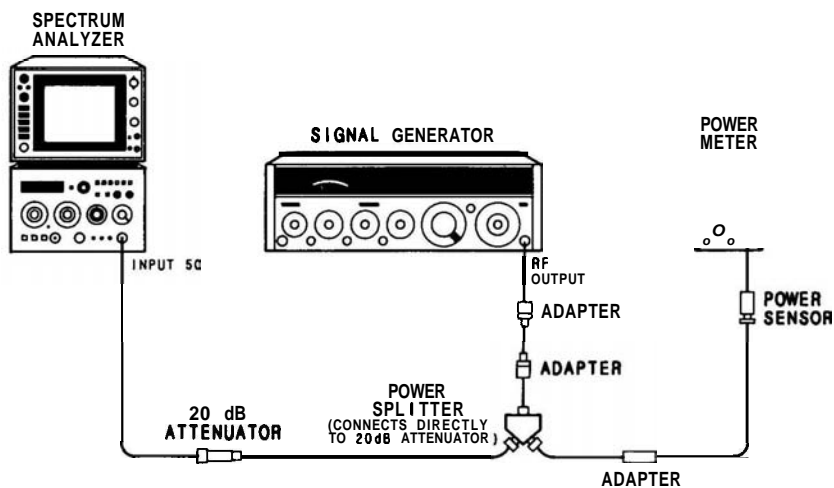

FIGURE 4-16. GAIN COMPRESSION TEST SETUP
2. Connect equipment as shown in Figure 4-16. Note that the 10-dB attenuator is placed between the power splitter and spectrum analyzer INPUT 50Ω connector.